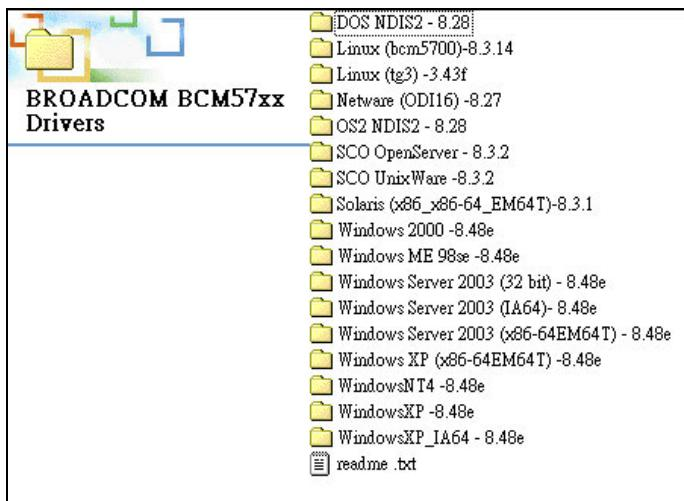

Figure 7-21: Location Browsing Window
Step 37: Select the proper OS folder under the “X:\3-LAN\BROADCOM BCM57xx Drivers” directory (**Figure 7-21**) in the location browsing window, where “X:\” is the system CD drive.